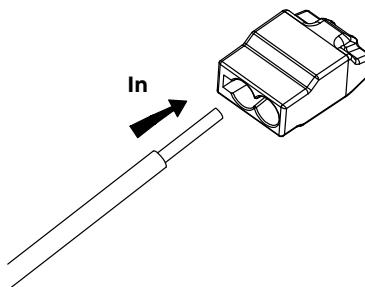

Figure 2
3. Fully insert the stripped conductor into the connector port (Figure 2).